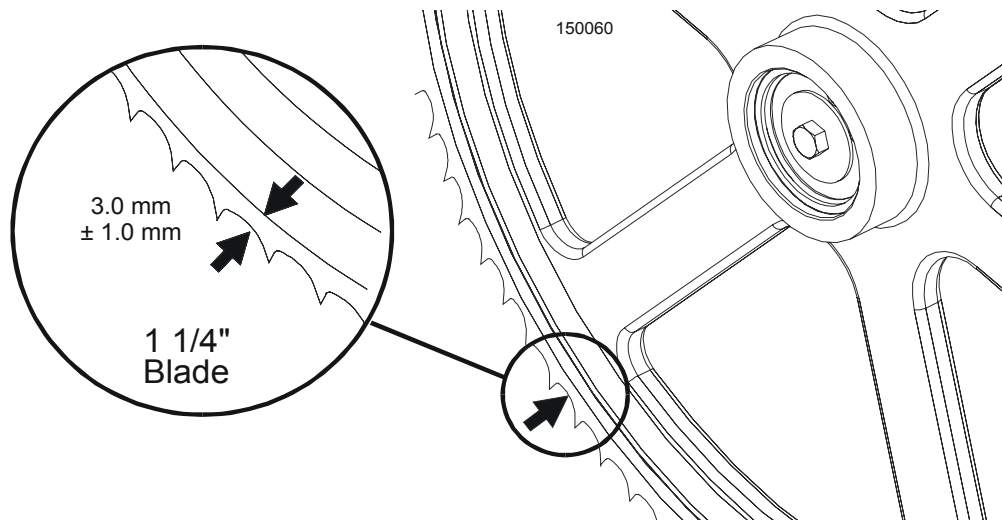

**FIG. 6-6**
**See Figure 6-6.** Use the vertical adjustment screws to adjust the idle-side blade wheel. To tilt the wheel up, loosen the bottom adjustment screw one quarter turn. Loosen the jam nut on the top adjustment screw and tighten the screw. Tighten the top and bottom jam nuts.